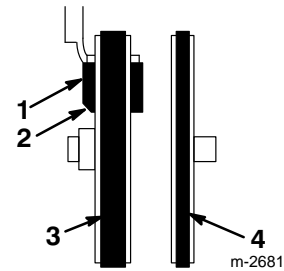

Figure 26
15. Ensure that the brake pad is properly installed on the brake arm. The angled cut-off on the brake pad must be positioned as shown in Figure 26.
12. Ensure that the brake pad is properly installed on the brake arm. The angled cut-off on the brake pad must be positioned as shown in Figure 26.